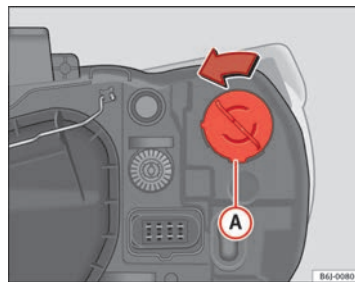

Fig. 152 Single turn signal lamp
- Rotate the bulb holder ⇒ fig. 152 Ⓐ to the left and pull.